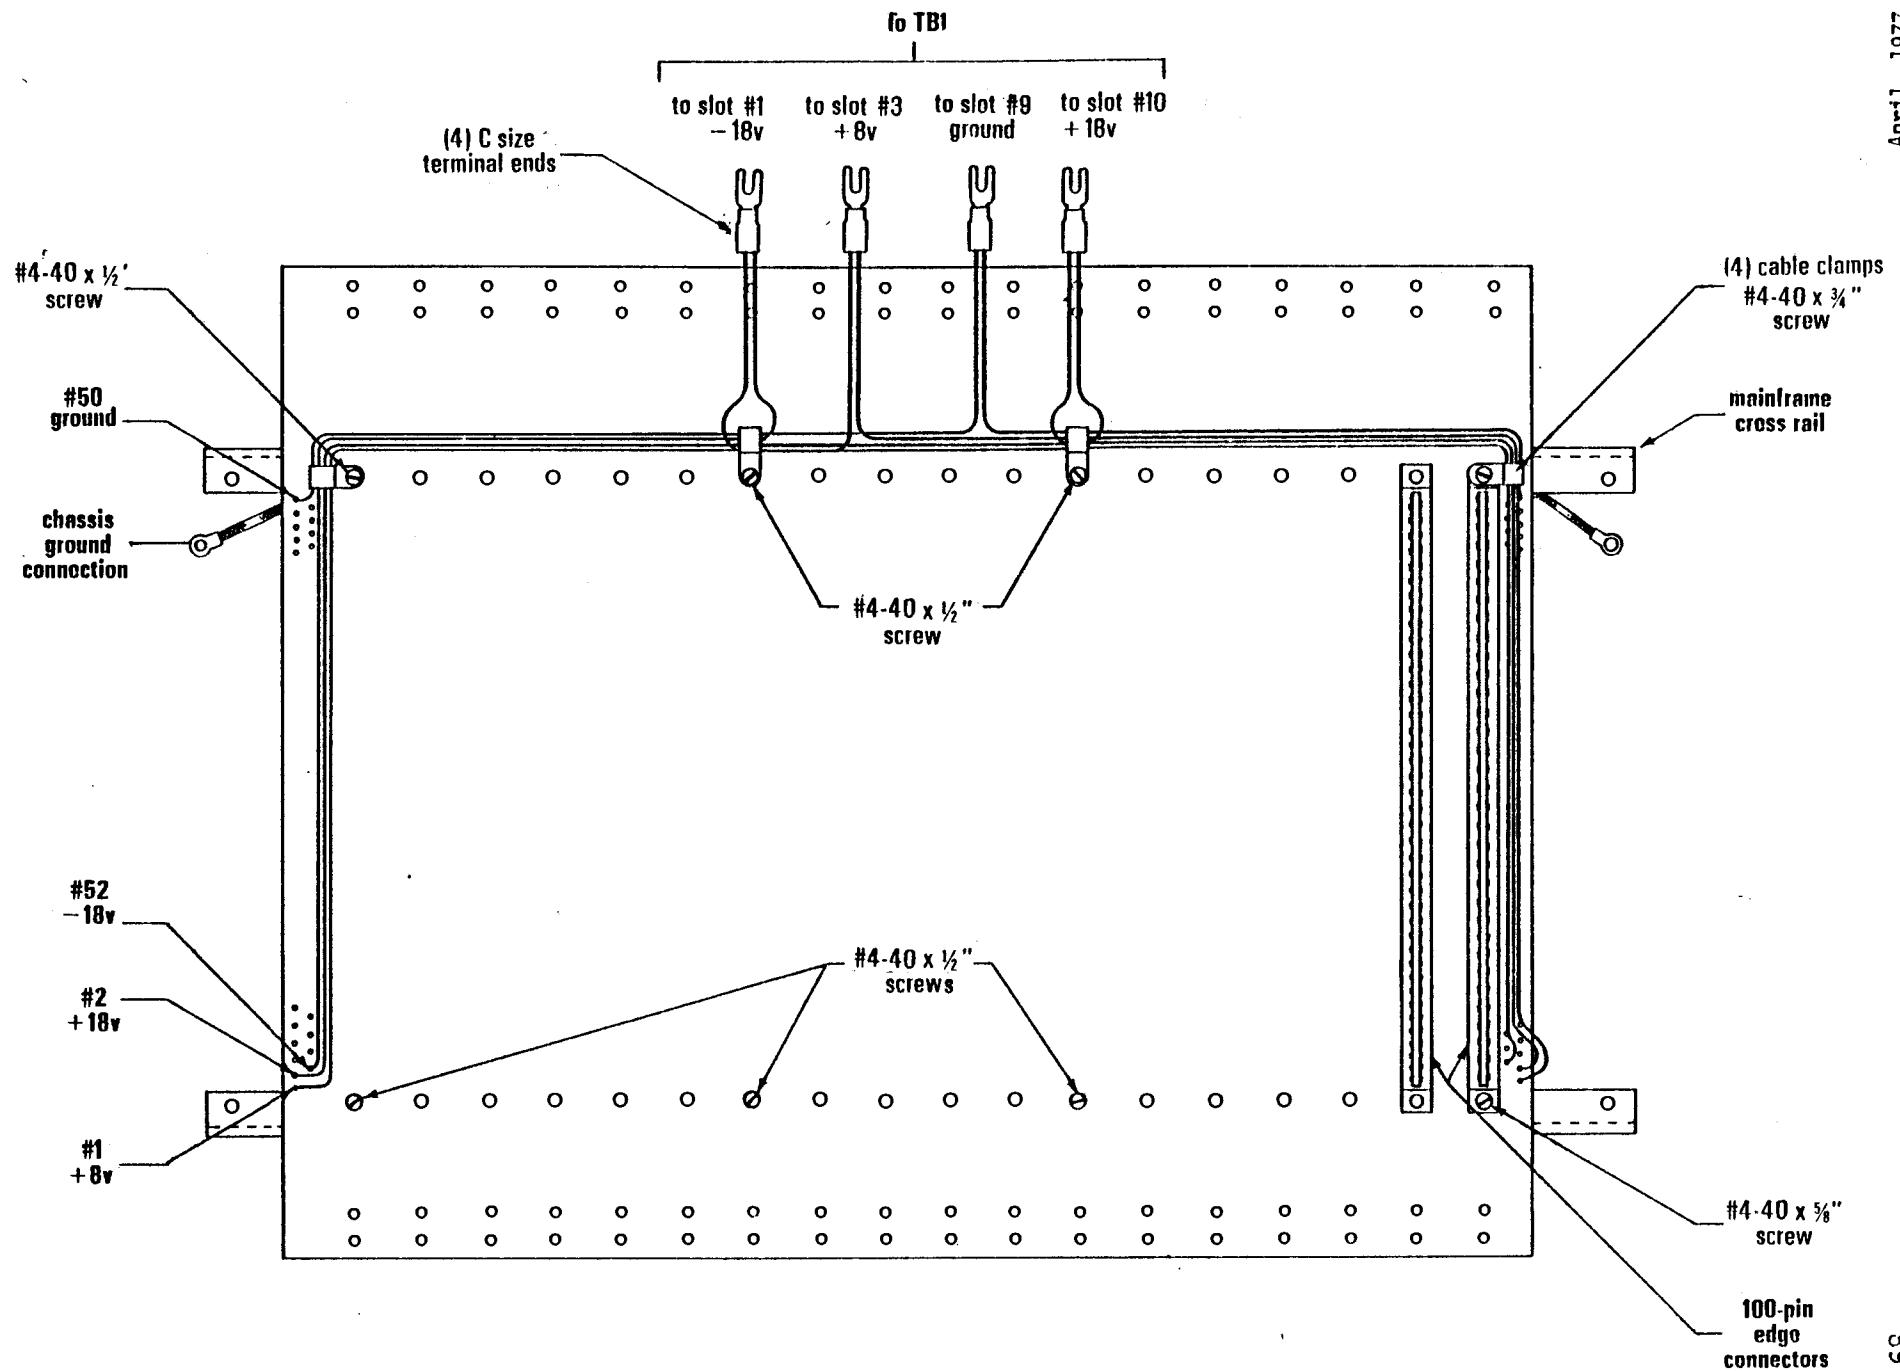

Figure 5-61. Motherboard Wire Connections
### 5-70. BUS WIRE CONNECTIONS (Figure 5-61)
Refer to Figure 5-61. Note that the two outside rows of holes on either side of the motherboard each have four wire connections. These are the +8v, -18v, +18v and ground lines to the power supply from the bus. The wire connections are made by inserting the end of the wire from the top side of the motherboard and soldering it to the foil (bottom) side. On the foil side of the motherboard, hole #1 and hole #50 are marked on each side. Complete the wire connections according to the following instructions:
## 5-71. HARDWARE INSTALLATION (Figures 5-61 and 5-62)
At this time, the edge connectors, cable clamps, mainframe cross rails, and card guides will all be assembled onto the motherboard according to Figures 5-61 and 5-62 and the following instructions.
1. Position the two 100-pin edge connectors on the motherboard as shown in Figure 5-61. Carefully insert the connector pins into their respective holes. If necessary, guide some of the pins with the tip of a small screwdriver. Be sure that the connector is tight against the board and that all 100 pins have been inserted. Solder each connector pin to the foil pattern on the bottom of the board.
3. Remove the two cross rails from the mainframe. Mount the cross rails to the bottom of the motherboard using eight screws, positioned as shown in Figure 5-61. Attach cable clamps to the four back mounting screws and run the bus wires through the cable clamps before tightening the screws down.
4. Match up the four pairs of bus wires at the back of the motherboard as shown in Figure 5-61. Attach a size C terminal end to each pair. Make sure the correct wires have been paired off: